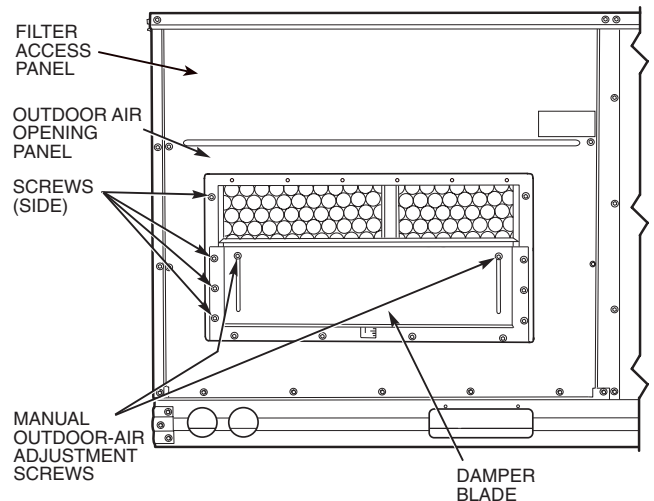
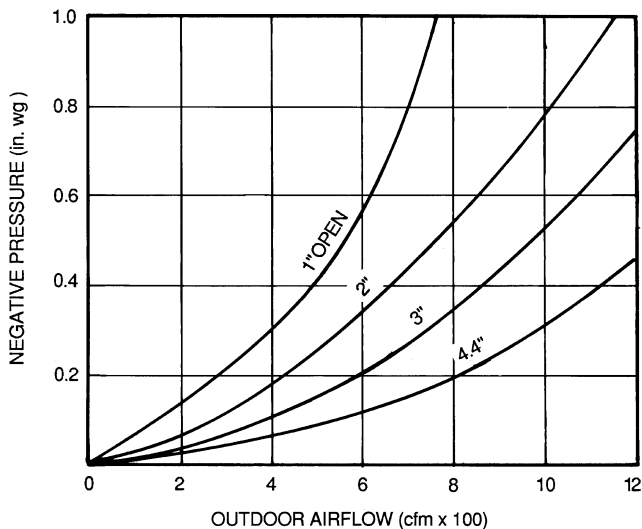

Fig. 11 — Damper Panel with Manual Outdoor-Air Damper Installed
Fig. 14 — Outdoor Air Damper Position Setting
2. Remove the filter access panel by raising the panel and swinging it outward. The panel is now disengaged from the track and can be removed. No tools are required to remove the filter access panel. Remove the outdoor-air opening panel. Save the panels and screws. See Fig. 11.
8. Adjust the minimum position setting of the damper blade by adjusting the manual outdoor-air adjustment screws on the front of the damper blade. See Fig. 11. Slide the blade vertically until it is in the appropriate position determined by Fig. 14. Tighten the screws.